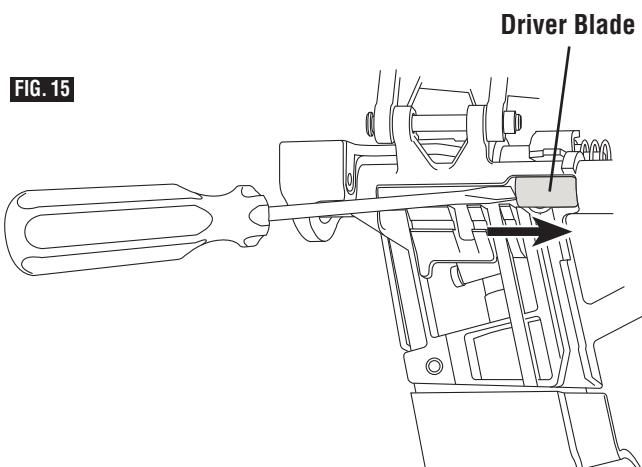

FIG. 15
5. If the driver blade is in the extended position, insert screwdriver or other rod into nosepiece and push driver blade into tool so that it is ready to fire, figure 15.